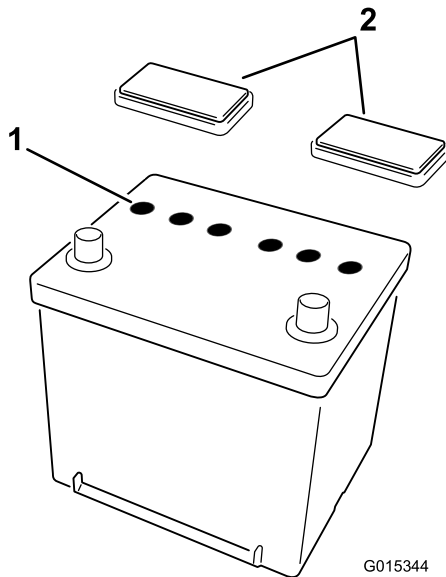

Figure 2
1. Remove the vent caps from the battery (Figure 2).
3. Install the vent caps (Figure 2).